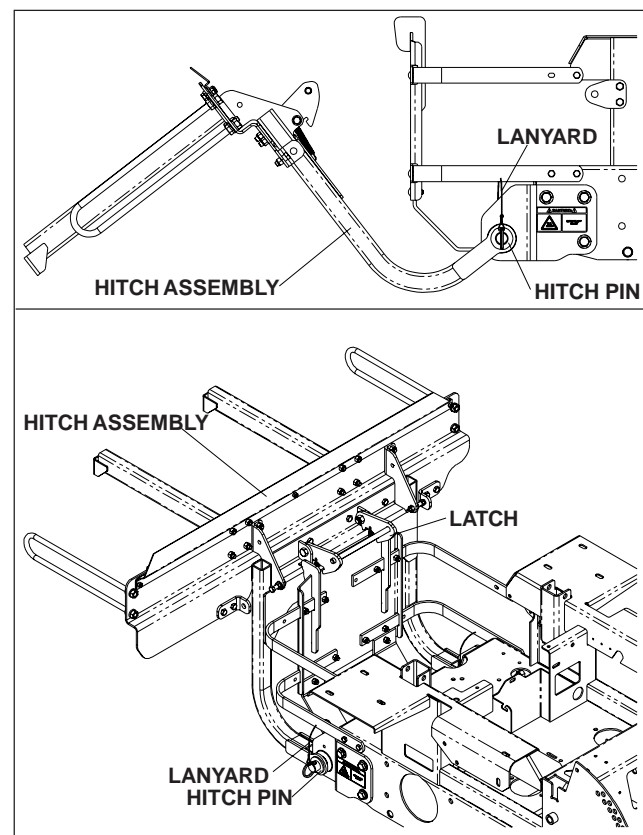

FIGURE 3
5. Place the hitch assembly on the ground behind the mower. Place the (2) hitch pins thru the hitch and the hitch brackets. Secure the hitch pins with the (2) hairpins that are secured with the (2) lanyards. Figure 3.
6. Move to the rear of the hitch assembly and pick it up towards the rear guard. The latch will hook over the top of the rear guard. Figure 3.